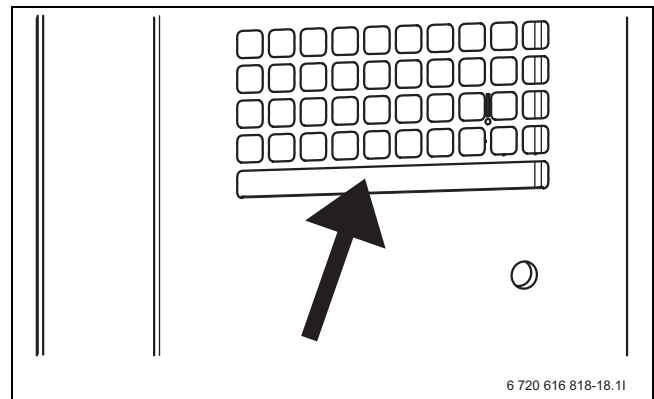

Fig. 46
- ▶ Remove dirt and leaves from the evaporator compartment at the back of the heat pump (→ Fig. 46).